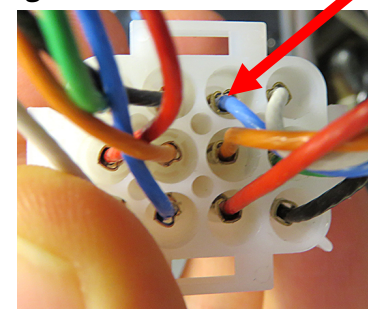

Figure 24
26. Insert the blue wire into Pin 6 (see Figure 24).